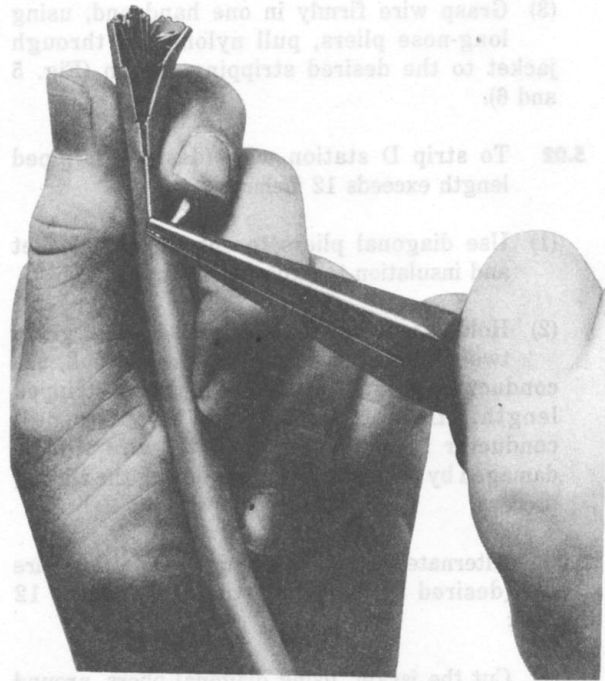

Fig. 5—Stripping D Inside Wiring Cable or G Station Wire (With Jacket-Slitting Cord)
- (1) Slit end of jacket with diagonal pliers for approximately 1 inch.
- (2) Locate jacket-slitting nylon cord under jacket.
- (3) Grasp cable firmly in one hand and, using long-nose pliers, pull nylon cord through cable jacket to the desired stripped length (Fig. 5).
- (3) Grasp wire firmly in one hand and, using long-nose pliers, pull nylon cord through jacket to the desired stripping length (Fig. 5 and 6).